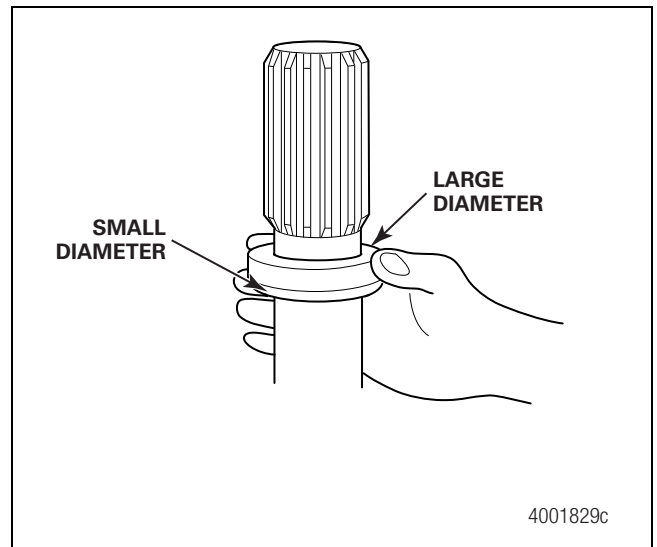

Figure 8.20
4. Install the new seal onto the spline shaft neck. Ensure that the small diameter side fits onto the splines first. Figure 8.20.